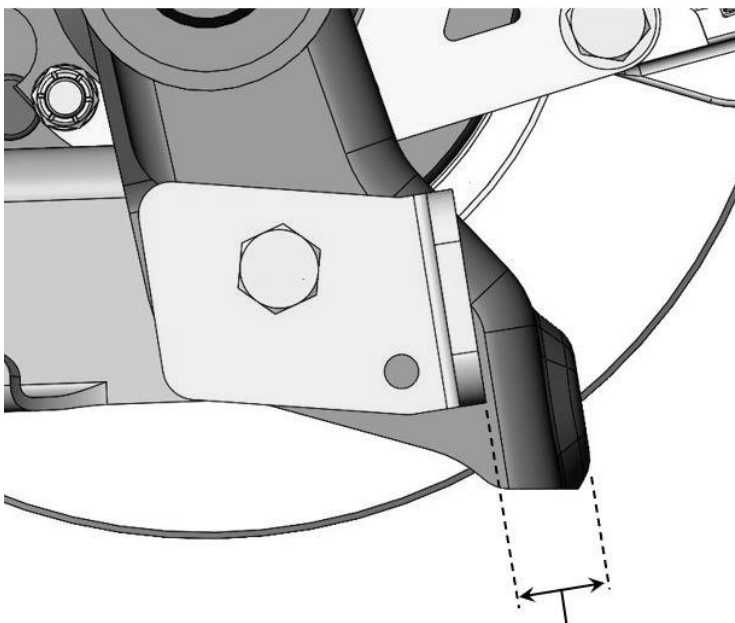
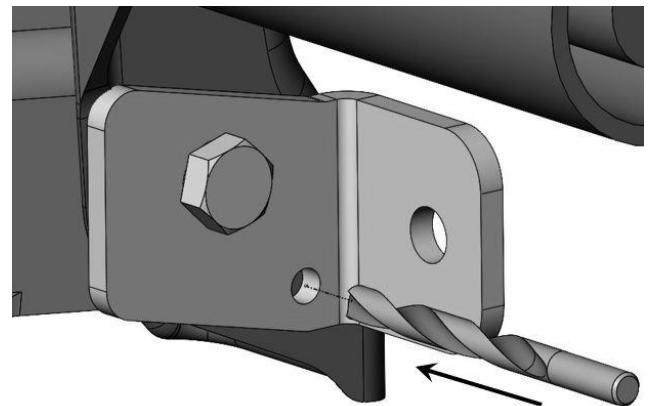

Figure 9a – Shock Relocation Bracket Orientation
Figure 9b – Location of Drilled Hole
13. After the Shock Relocation Brackets have been installed and held loosely in place by the Lower Control Arm Bolt, align the mounting face so that it is parallel with the face of the original shock mount location. Refer to Figure 9a below for reference. With the Shock Relocation Bracket oriented correctly, use a 5/16" drill bit to drill a hole where the 5/16" hole is on the Shock Relocation Bracket. Refer to figure 9b below for reference.